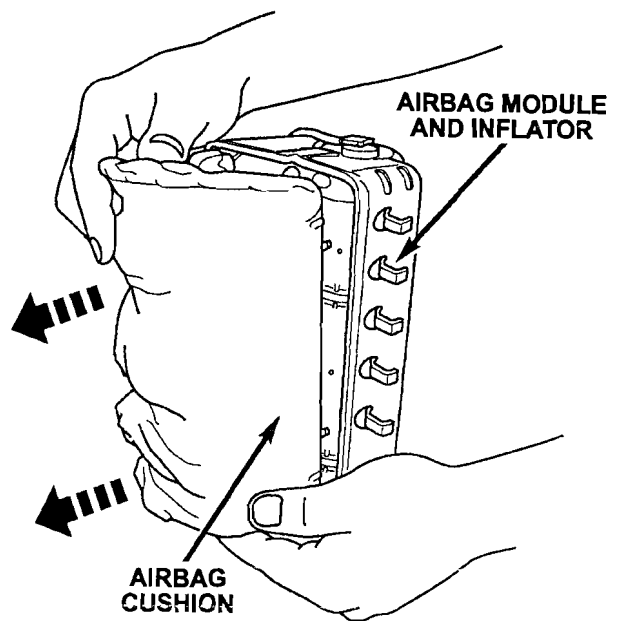

Figure 8
13. Carefully remove the airbag cushion from the inflator assembly (Figure 8).